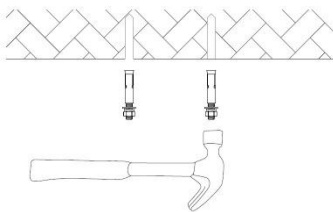

Figure 3
- 8: Surface kit is supplied with anchors. Drill (2) 10mm holes in ceiling. Use bracket as template.
- 9: Use hammer to pound supplied anchors into holes. (Figure 3)